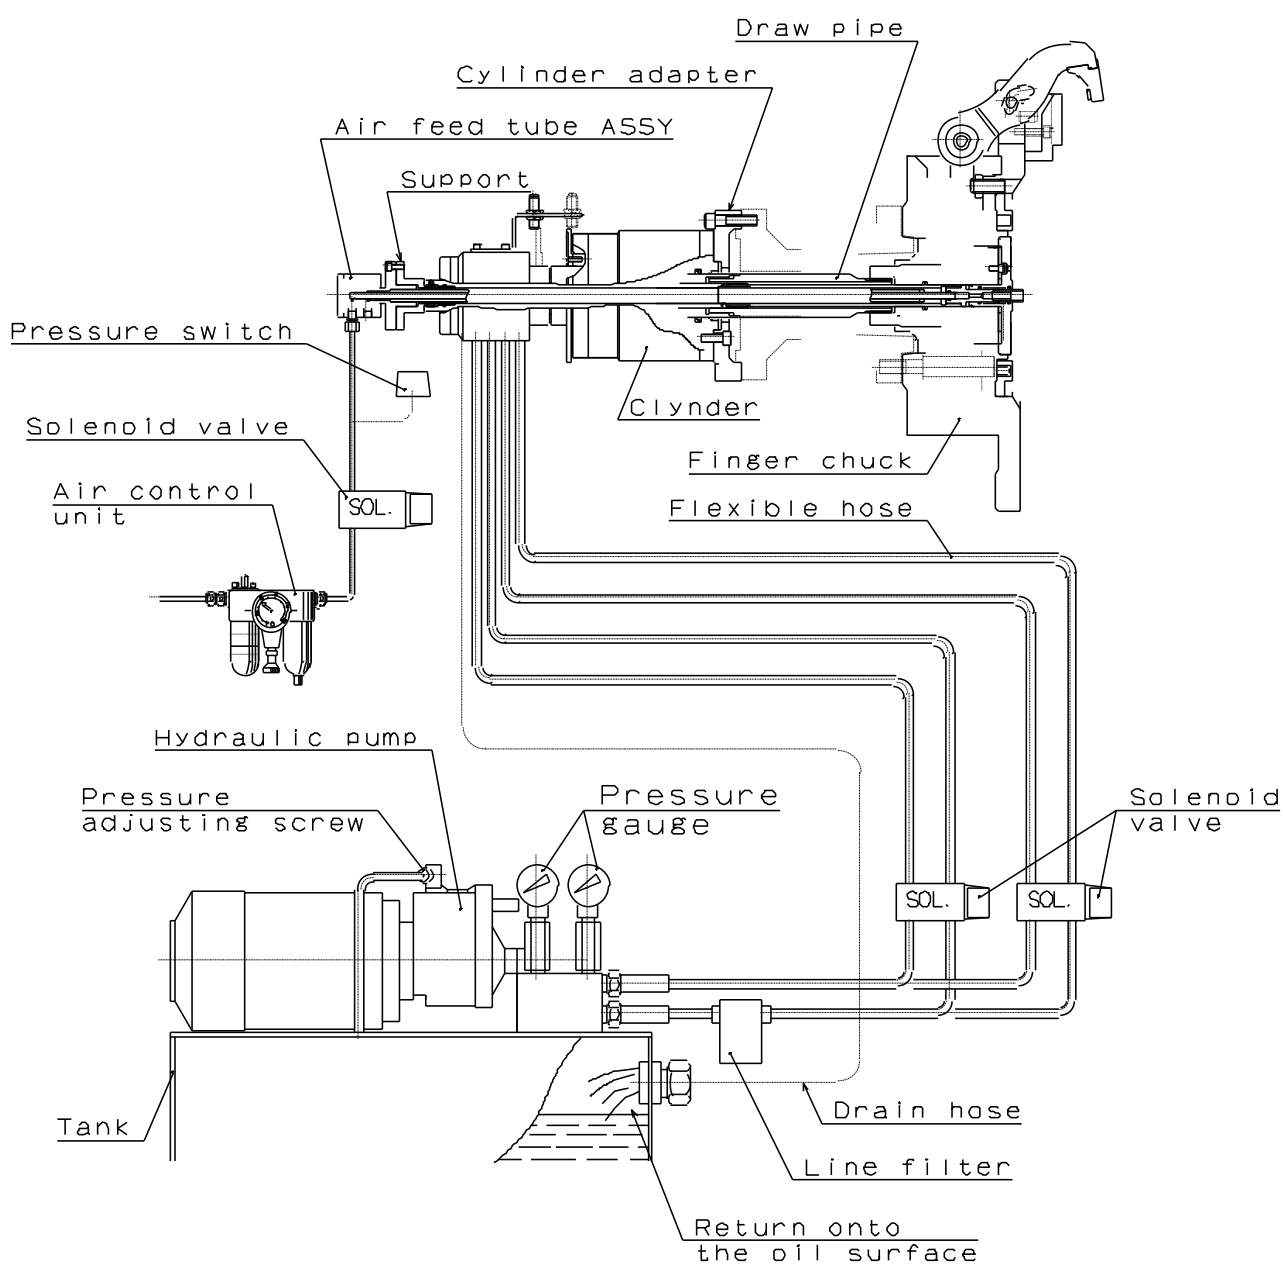

Fig.12
- **The end of the hose is physically above the oil level. (Refer to Fig.12)**